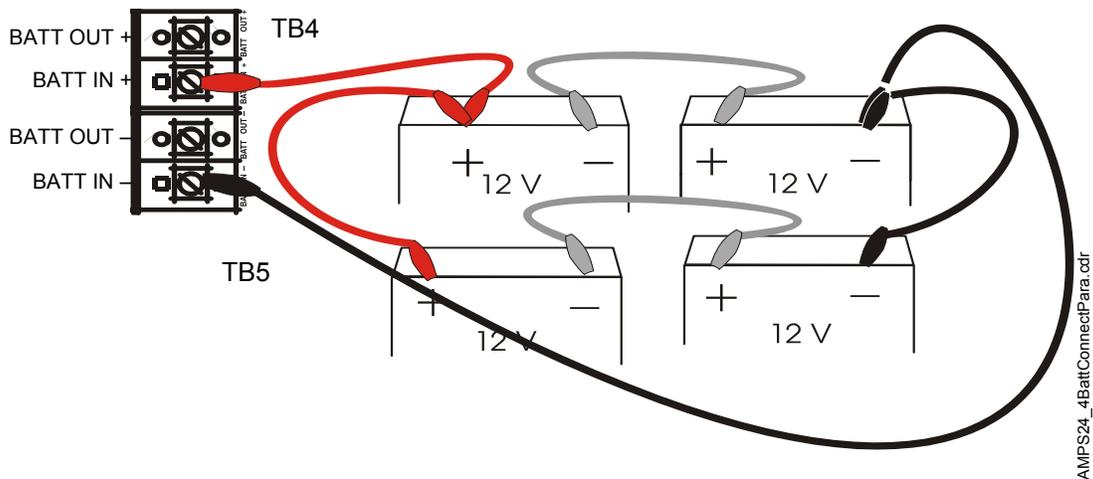

Figure 2.17 Connecting Four Batteries to the Power Supply
6. **Only after initial system power-up**, connect the two pairs of batteries. Use two battery interconnect cables to tie each unoccupied negative (-) terminal to an unoccupied positive (+) terminal, as shown in Figure 2.17.